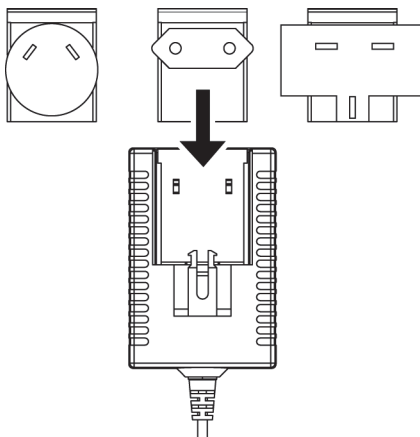

Fig. 3.5 PS4 Universal AC/DC Power Supply
1. Squeeze both sides of the PS4 latch lock (see Fig. 3.5).